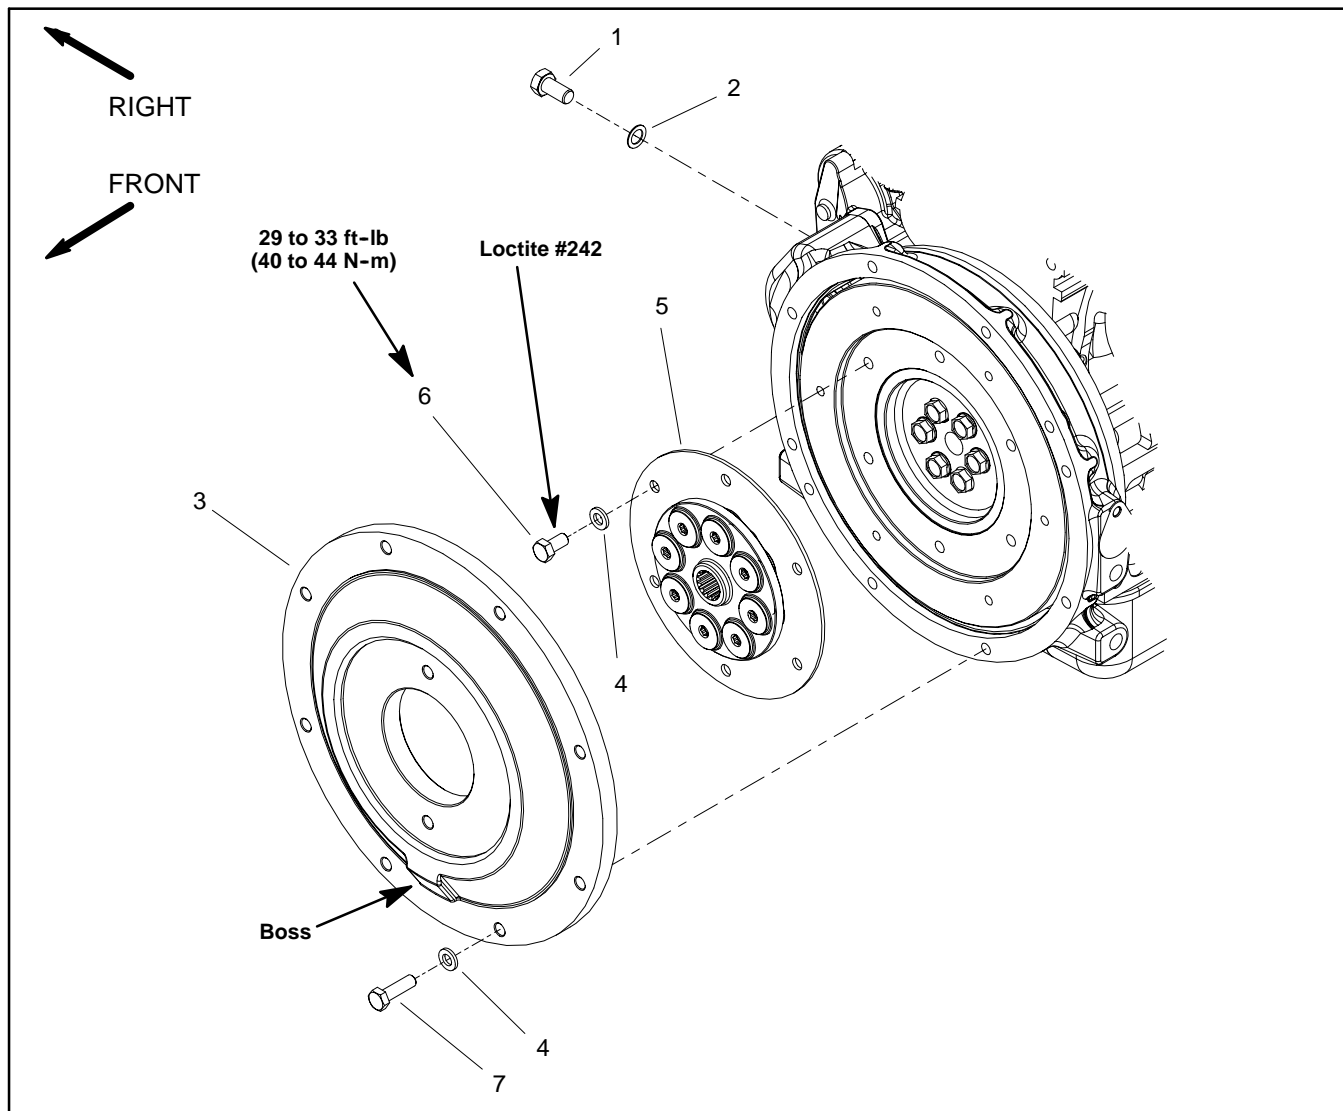

Figure 14
Coupler Removal (Fig. 14)
2. Remove flywheel plate and spring coupler from engine using Figure 14 as a guide.
Coupler Installation (Fig. 14)